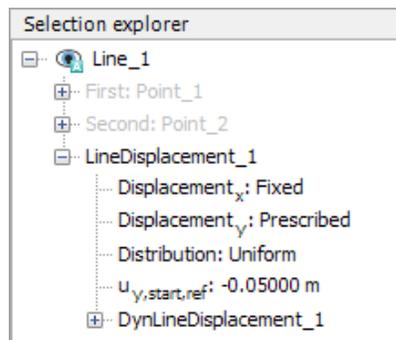

Figure 9: Prescribed displacement in the *Selection explorer*
8. Specify a uniform prescribed displacement in the vertical direction by assigning a value of -0.05 to $u_{y,\text{start,ref}}$ signifying a downward displacement of 0.05 m as shown in Figure 9 (on page 20).